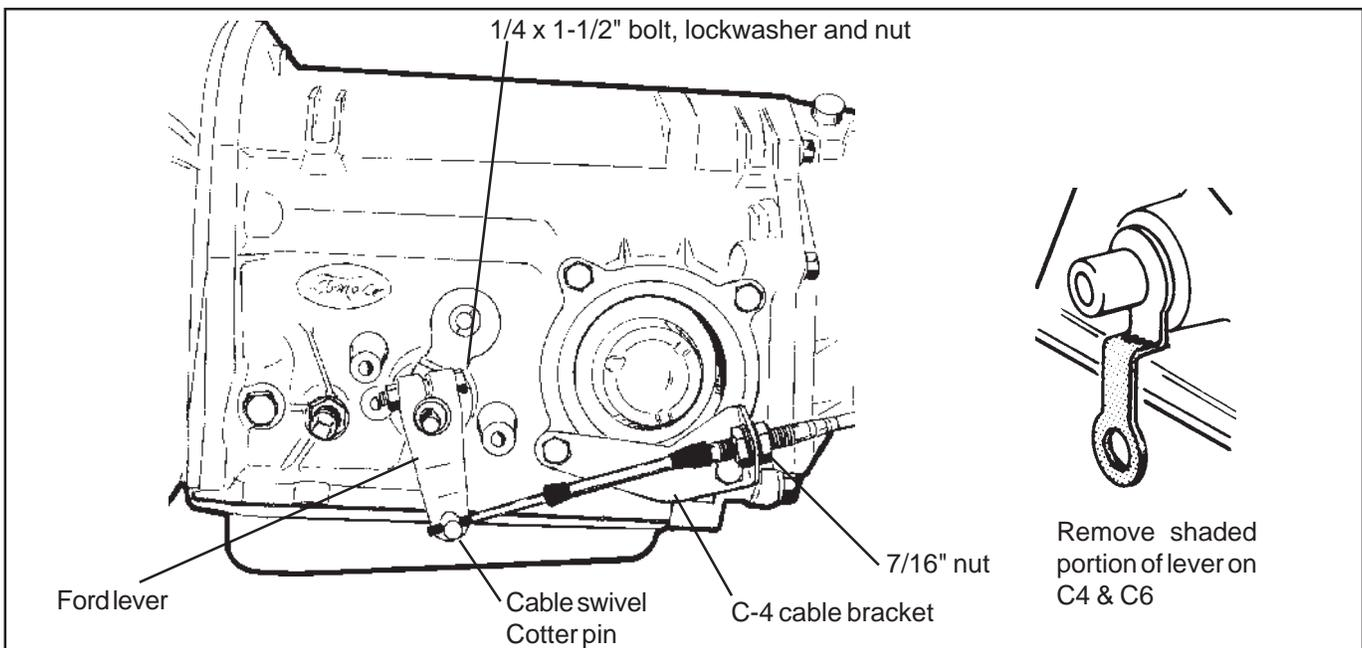

Figure 5
STEP 14. Install the **B&M** selector lever (See **Figure 5 or 6**). Note: The **B&M** lever must point downward for proper operation. If the stock shift lever on your transmission points down,
you will have to remove the lower part of the stock arm by cutting it off to clear the **B&M** lever (See **Figure 5**). Install the **B&M** selector lever onto the shift shaft of the transmission. Align the **B&M** selector lever so when it points straight down it travels equal arcs in both directions from the center, then tighten the 1/4"-20 x 1 1/2" pinch bolt and the nut. The lever should travel smoothly from front to back with a positive click in each gear position. Make sure the o-ring is in position on the downshift shaft and install the downshift lever in position on the shaft. Install the lockwasher and the nut and tighten securely. The downshift lever must operate smoothly. Reconnect the down-
C-4, C-5: Remove the two lower bolts from the rear servo cover. Install the cable bracket in position (See Figure 5). Install the two servo cover bolts as removed and tighten to 12-13 lb. ft. Do not overtighten as this can distort the servo cover.